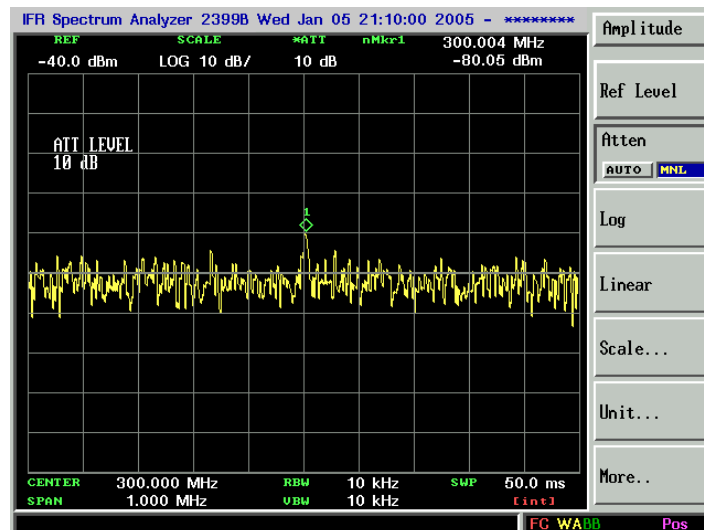

Figure 2-13. Low-Level Signal with 10dB Attenuation
8. Press **AMPL**, *Atten [MNL]*. Press the step-up key (**▲**) to select 10 dB attenuation. Increasing the attenuation moves the noise floor closer to the signal. See Fig 2-13. A * mark appears next to the ATT annotation at the top of the display, indicating the attenuation is no longer coupled to other analyzer setting.